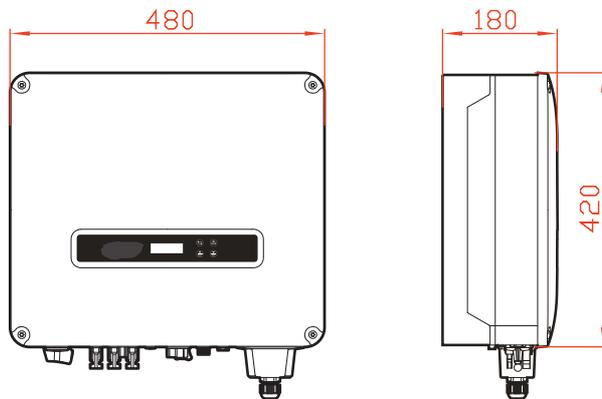

Figure3-6 Size (unit: mm)
Step 1 Determine the installation place based on the inverter size (as shown in Figure3-6) and installation space (as shown in 3.2.3 Installation Space).